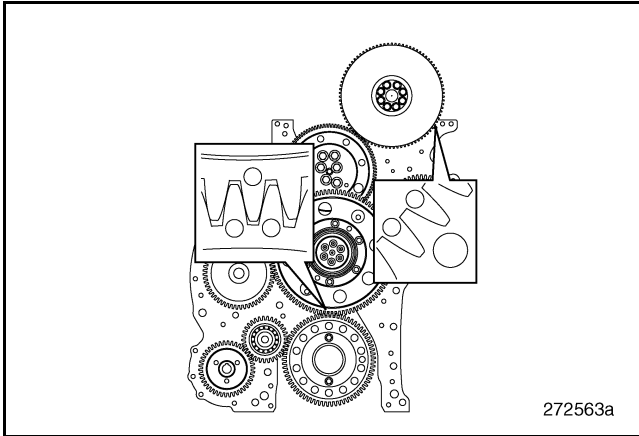

Figure 293 — Camshaft Gear Check
5. Align the punch marks on the camshaft gear teeth to straddle the alignment hole in the timing gear plate and install the camshaft gear without the damper as shown in Figure 293. Install the clamp plate tool, J 44514-1A, using **Position B** of the gauge plate tool to secure the camshaft gear to the camshaft and loosely install the two retaining bolts.